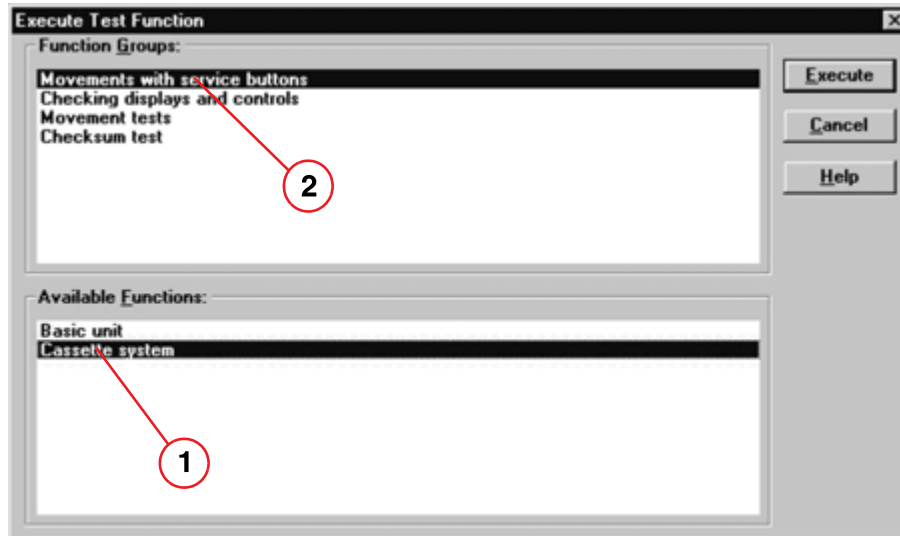

Fig. 29: Window "Execute Test Function"
- Select **Movements with service buttons** under **Function Groups** (2/Fig. 29 / p. 49).
- If you select **Basic unit** (1/Fig. 29 / p. 49) under **Available Functions**, the following window appears (Fig. 30 / p. 50) after selecting **Execute**.
- If you select **Cassette system** (1/Fig. 29 / p. 49) under **Available Functions**, the following window appears (Fig. 31 / p. 50) after selecting **Execute**.